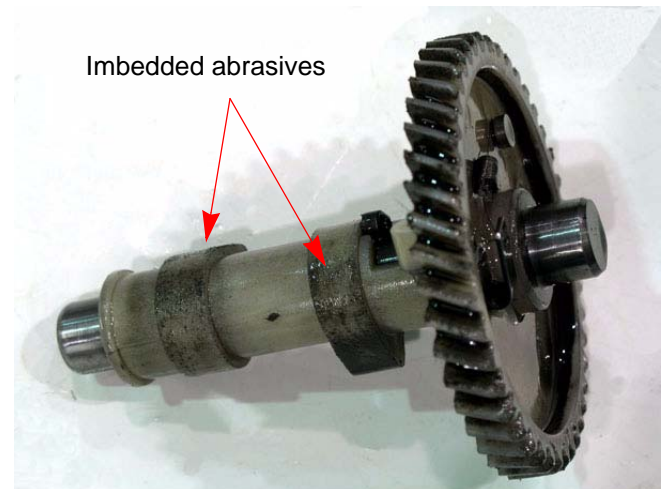

Figure 11.7
**NOTE:** Abrasive particles can also be imbedded into materials that are softer than the abrasive. This will cause the affected part to act like a piece of sand paper or a grinding wheel. See Figure 11.7.